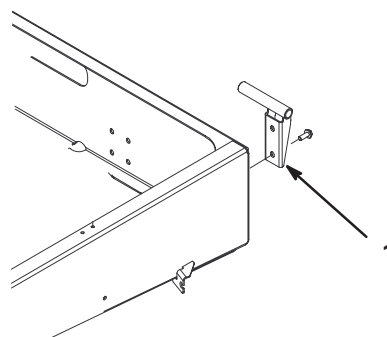

Figure 8
2. Mount the left hand pivot bracket to the left rear corner of the frame with 2 flange head screws (3/8 x 1 in.). Position the bracket as shown in Figure 8.